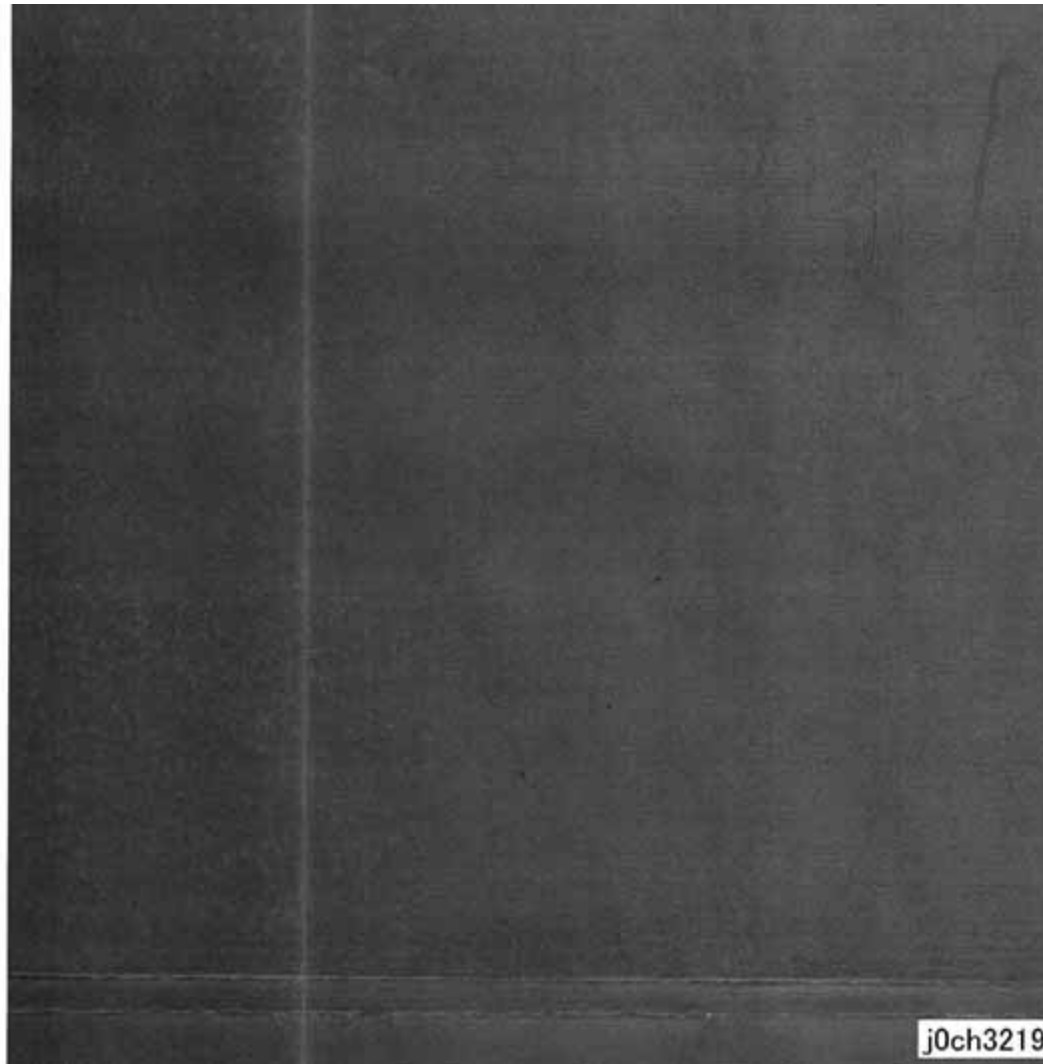

Figure 3 White Streaks (Process Direction)
- White Streaks (Process Direction) (Figure 3)